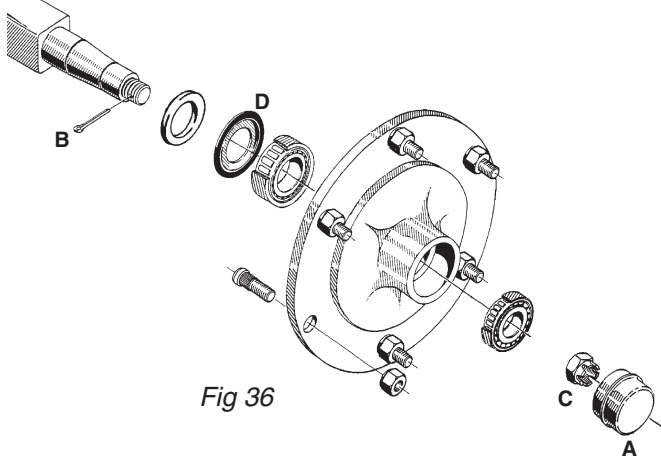

Fig 36
- 4 Remove the hub cap (**A Fig 36**), cotter pin (**B Fig 36**) and castle nut (**C Fig 36**).
- 7 Assemble the hub and bearings using a new sealing ring (**D Fig 36**).